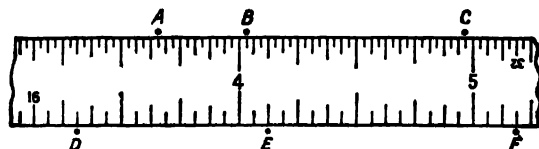

Fig. 3-8.
4. What are the readings in Fig. 3-8 at points A, B, C, D, E, and F?